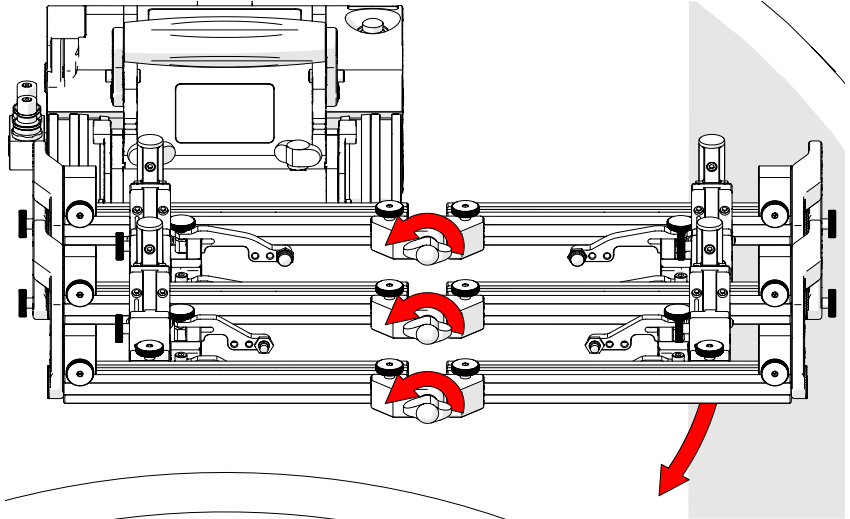

Fig. 152 - Loosen pivot wing knobs
1. Loosen the pivot wing knobs at the centre of the frame system (Fig. 152). Lower the left side of the frame system to align with the tangent of the scan surface. Tighten the pivot wing knobs.